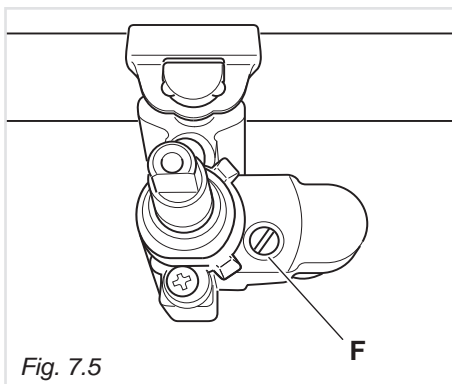

Fig. 7.5
- With a thin screwdriver turn the screw “F” until adjustment is correct (fig. 7.5).